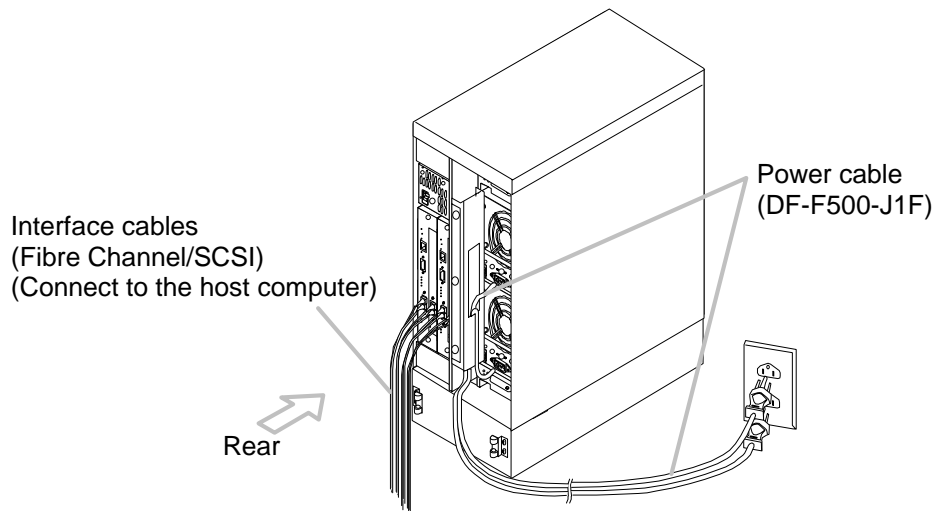

Figure 4.23 Connecting the Cables
3. Connect power cables. (see figure 4.23)
4. Connect interface cables (Fibre Channel/SCSI). (see figure 4.23)